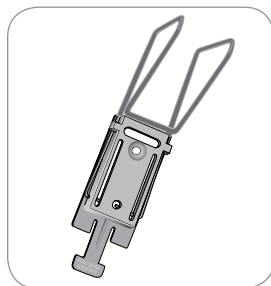

Fig. 9 - Wire Bracket
1. Use wire bracket (Cat. 8276) for head or footboard mounting (fig. 9).